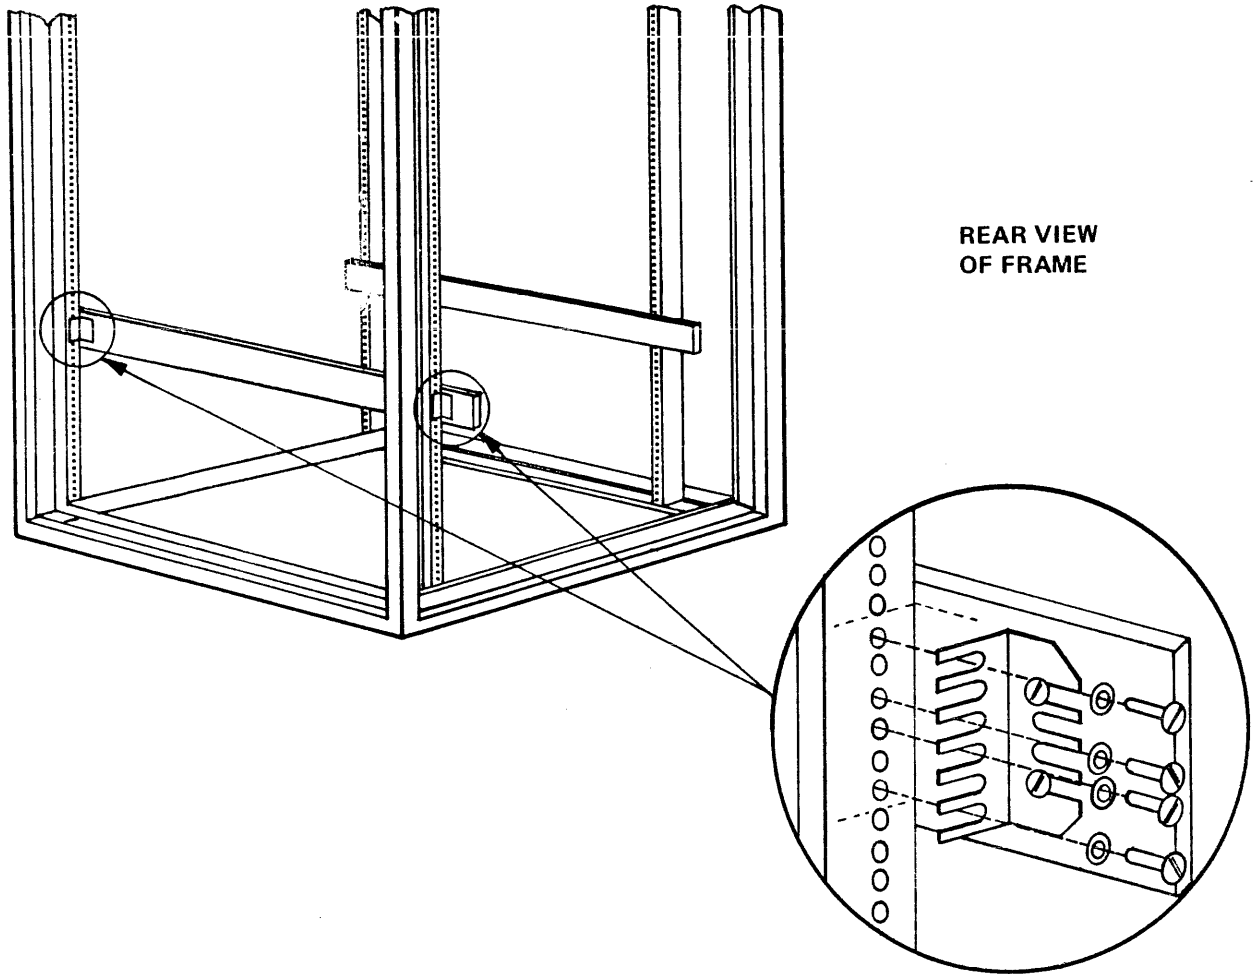

Figure 6-6. Installation of Logic Power Supply - 1 Slides in B 1700 Frame
- c. Install the Logic Power Supply - 1 extender slides in the B 1700 frame as shown in figure 6-6. The slide brackets must be installed on the backplane side of the frame rails, and with the lower mounting screw of each bracket at the hole located 9-1/4" from the base of the frame. Use four each # 10 lock washers at each bracket location.